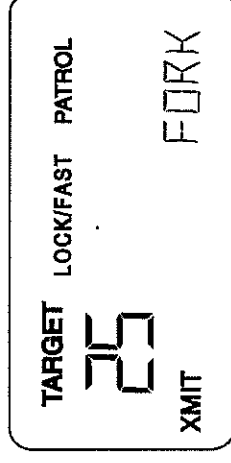

Fig. 44
To perform the tuning fork test: Turn the transmitter on with the trigger or remote control, then strike the 25 mph (40 kph) tuning fork against a hard nonmetallic surface, such as the heel of a shoe. ✱ Quickly hold the tuning fork approximately two (2) inches in front of the antenna, with the narrow edge of the fork facing the antenna. The target window should indicate 25 ± 1 mph (40 kph) (Fig. 44).